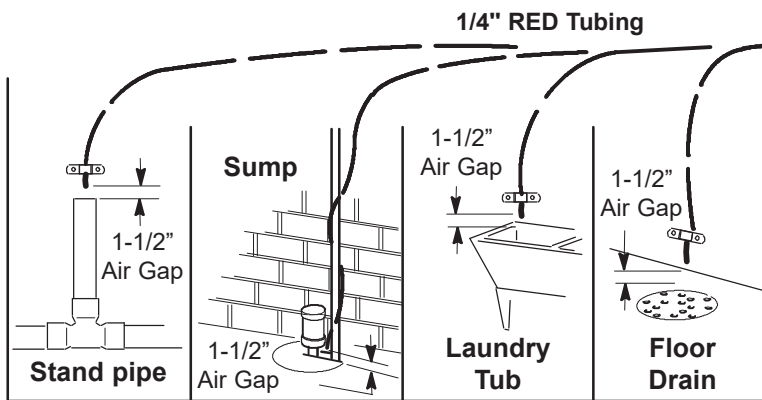

FIG. 12
Route the drain tubing to an existing drain in the house. A floor drain, laundry tub, standpipe, sump, etc. are suitable drain points. See Fig. 12. This type of drain is the preferred over the p-trap drain adapter.
4. Route the tubing to the drain point and secure at the end with a bracket (not included). See Fig. 12. Provide a 1-1/2" air gap between the end of the tube and the drain. See Fig. 12.